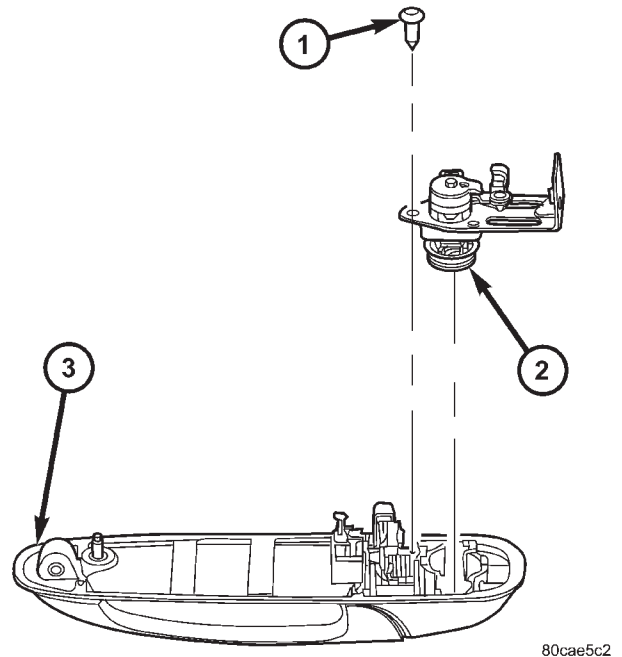

Fig. 9 LOCK CYLINDER
- (1) Remove the exterior handle. (Refer to 23 - BODY/DOOR - FRONT/EXTERIOR HANDLE - REMOVAL)
- (2) Remove the clip and remove the lock cylinder lever and switch, if equipped.
- (3) Remove the screw and remove the lock cylinder. (Fig. 9)